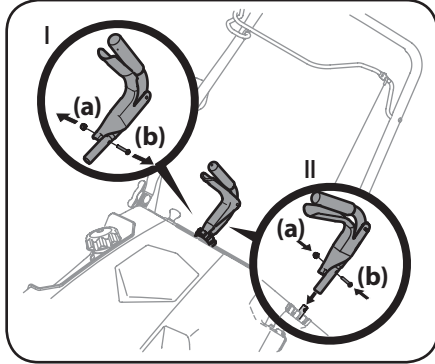

Figure 2-10
1. Remove the hex lock nut (a) and machine screw (b) from the chute rotation control assembly. See Inset I in Figure 2-10.
2. Place the chute rotation control assembly onto the chute rotation rod, align the holes and secure with the hex lock nut (a) and machine screw (b) removed in Step 1. See Inset II in Figure 2-10.